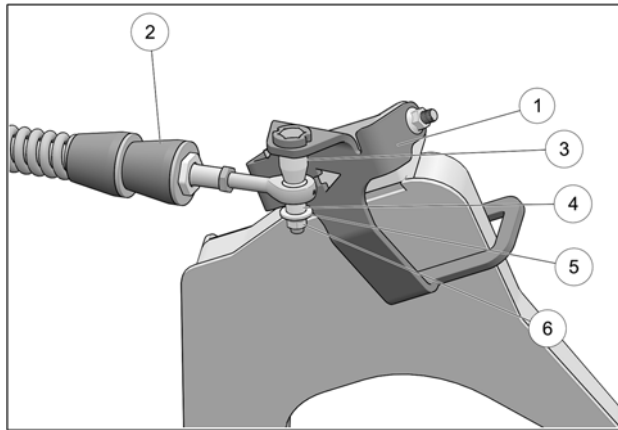

Fig. 11
10. Attach stabilizing rod (2) to anchor bracket (1), using long spacer bushing (3), short spacer bushing (4), flat washer (5) and nut (6). Torque to 70 N•m [52 lb•ft]. See Fig. 11